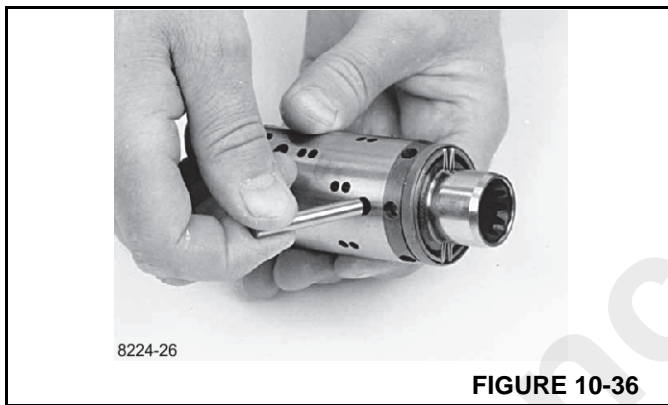

FIGURE 10-36
5. Fit the cross pin into the spool/sleeve (Figure 10-36).